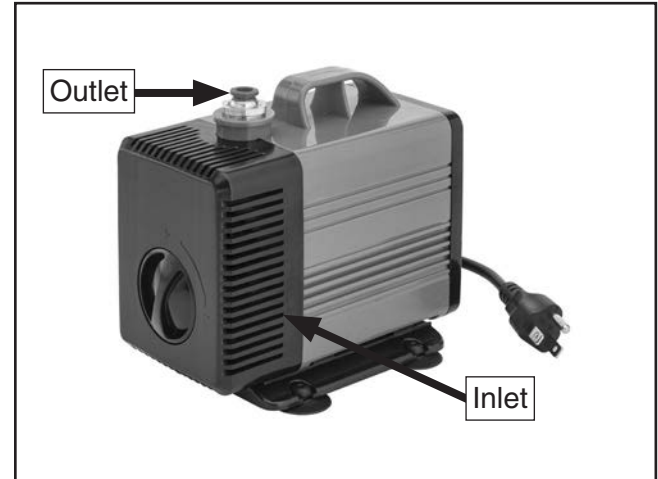

Figure 12. Cooling pump inlet and outlet.
4. Connect either coolant tube from back of machine to cooling pump outlet (see **Figure 12**).